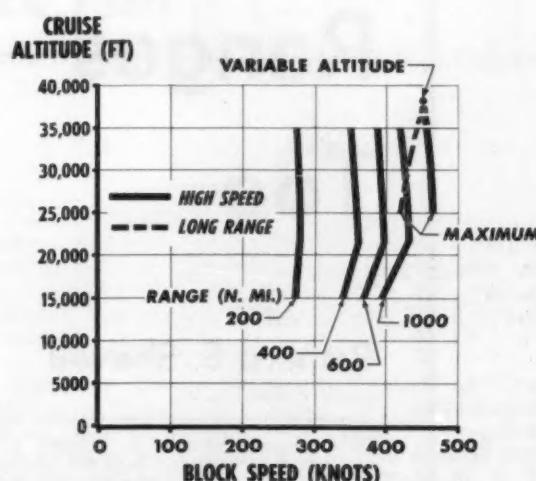

Fig. 4—Effect of altitude on block speed for DC-8.
**Block Speed**—The effect of altitude on block speed is relatively minor, as shown in Fig. 4. This graph shows the block speed effects at ranges of 200–1000 nautical miles as well as at maximum range. The curves are based on cruising at the drag divergence Mach number (the Mach number above which